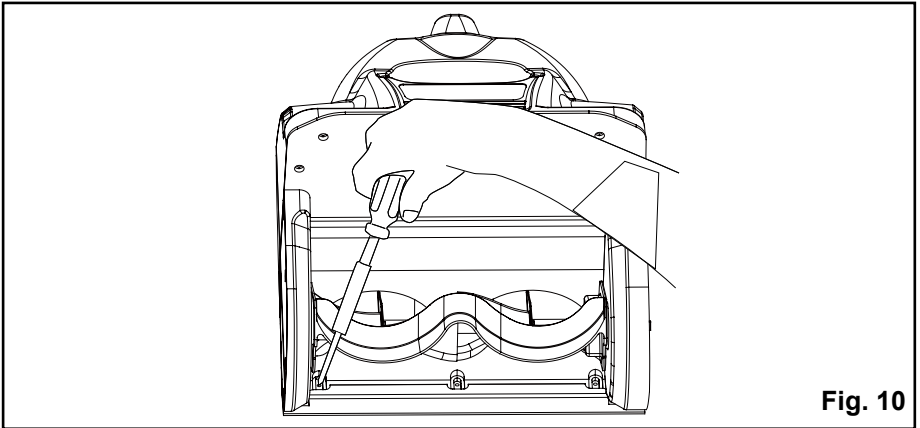

Fig. 10
REPLACING THE SCRAPER (See Figure 10)
- Remove the three (3) screws that are located beneath the impeller that secure the scraper to the housing using a phillips screwdriver. (Fig. 10).
- Snap the new scraper into position, and attach it to the snow shovel by reinstalling the three (3) screws.